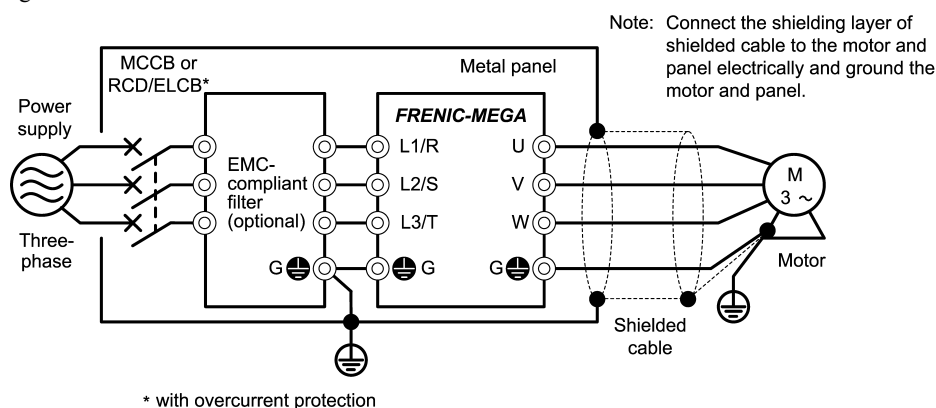

Figure 9.3 Mounting the Inverter with EMC-compliant Filter in a Metal Panel
- 3) If noise from the inverter exceeds the permissible level, enclose the inverter and its peripherals within a metal panel as shown in Figure 9.3.